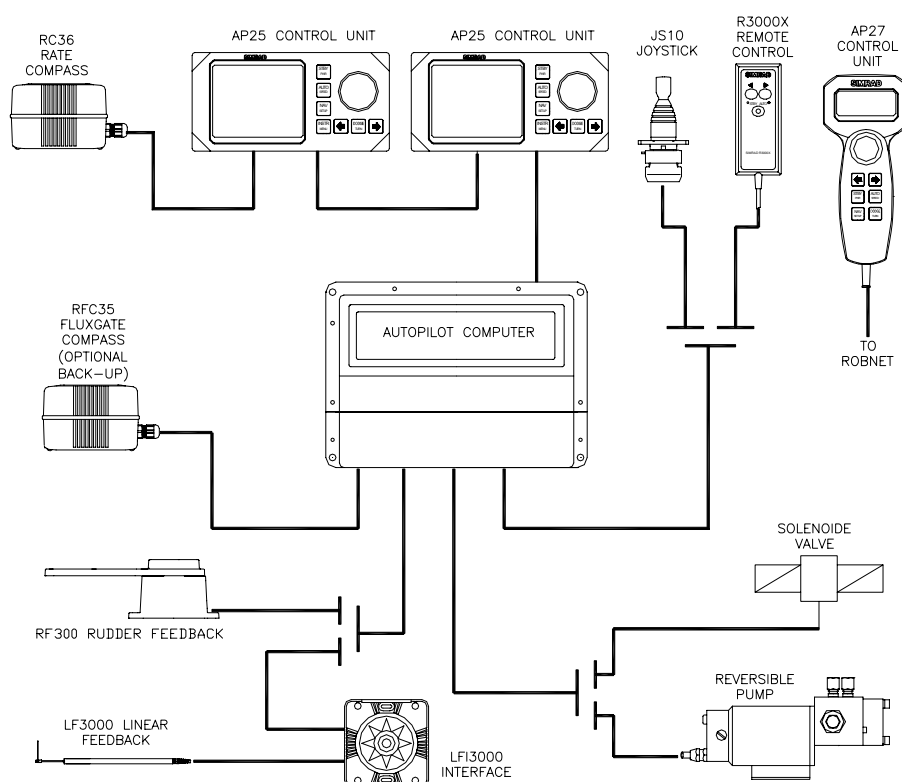

Figure 3-1 AP25 system layout with options
1. Determine the system configuration you are installing (Figure 3-1)
It is important to become familiar with the configuration of the system prior to beginning the installation. The AP25 system layout with options is shown in Figure 3-1